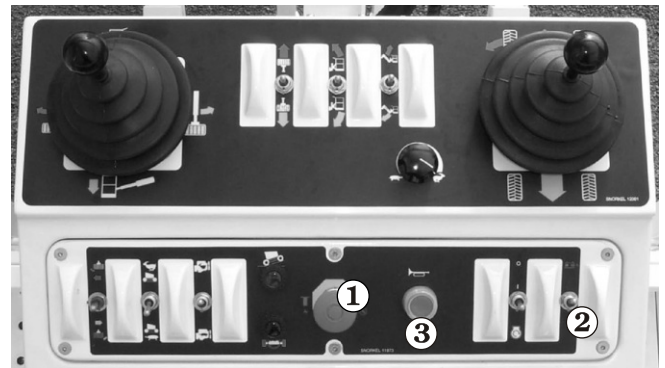

Figure 3.2—Platform Controls (Electric Controls)
Press the large red **EMERGENCY STOP** ① (refer to Figure 3.2 and 3.3) button in and the entire machine stops, the engine turns off, and nothing moves. This button must be out (on) to control the
The horn (refer to Figure 3.2 and 3.3③) may be used to warn personnel on the ground. The horn is operational when the machine is set up for operation from the upper controls.